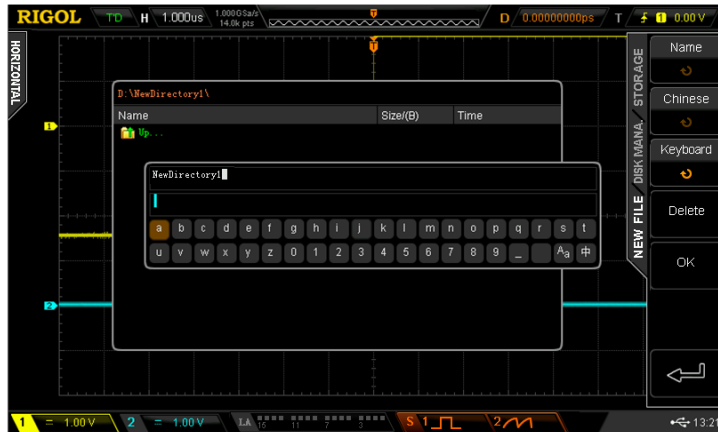

Figure 14-5 External Disk (To Create a New File)
- 4) After the storage position is selected, press **New File** to turn on the interface as shown in Figure 14-5. Refer to the descriptions in "**To Create a New File or Folder**" to create a new file.